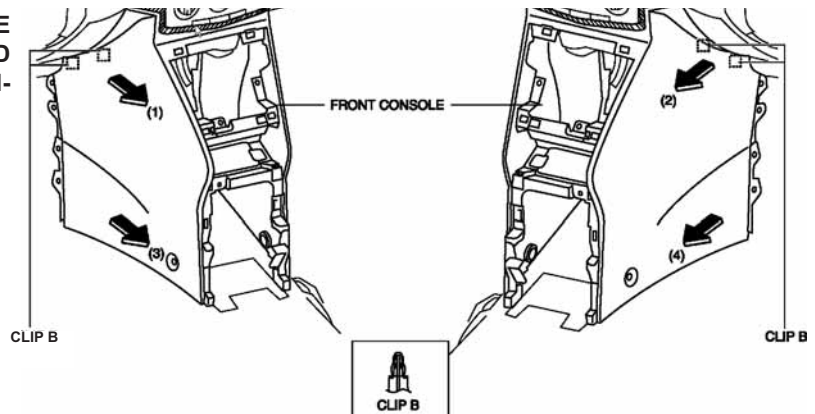

FIGURE 15
- 2.) PULL THE FRONT CONSOLE IN THE DIRECTION OF THE ARROWS (1), (2), (3) AND (4). REMOVE THE CONSOLE WHILE DETACHING CLIP B. (SEE FIGURE 15)